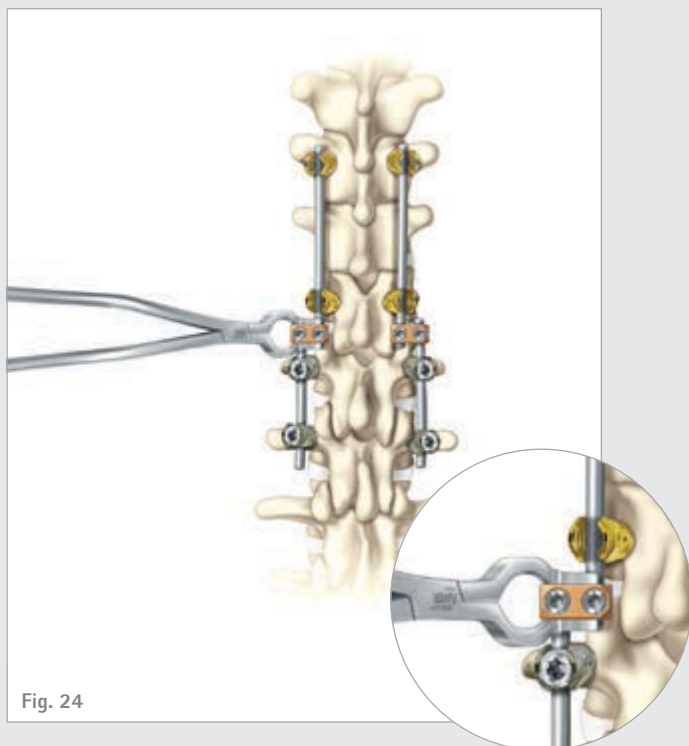

Fig. 24
- For open / closed style, use the Rod-To-Rod Connector Inserter (FW493R) to grab the connector and slide a rod into the closed hole and then connect to the other rod using the open hole. (Fig. 24)